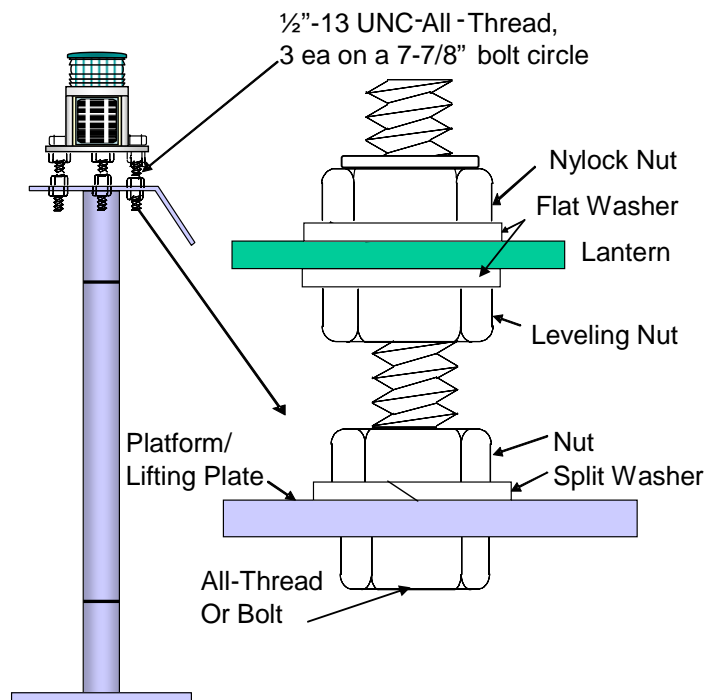

Figure 3-6
- d. Secure three ½” stainless steel bolts (or all-thread) to the structure’s mounting plate as shown in Figure 3-6. Install three jam nuts on the bolts so that about 1” of thread is exposed. Place the lantern on top of the leveling nuts, then drop on the split washers and position the uppermost nuts at the very upper end of the thread. Do not tighten these uppermost nuts – they are positioned at this time to ensure that the lantern doesn’t fall off. Level the lantern on structures by adjusting the leveling nuts (use a torpedo level on the top of the lens or base plate of the lantern - use the “T” method. When the lantern is level, tighten the uppermost nuts.